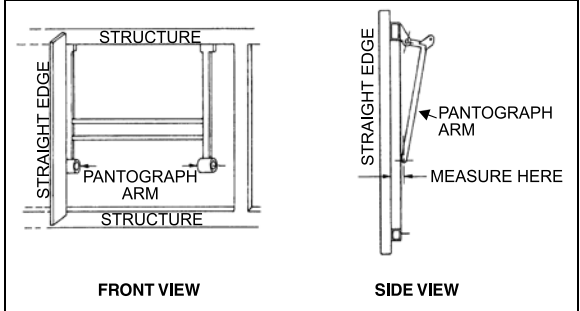
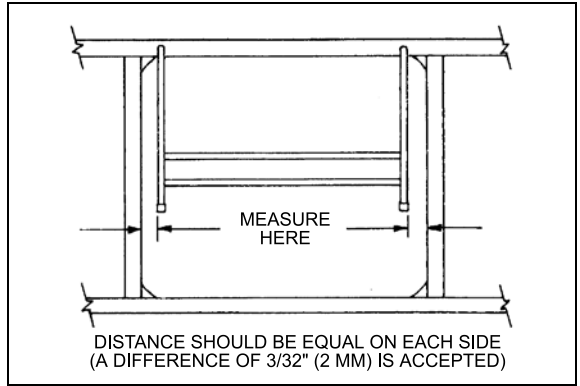

FIGURE 67: PANTOGRAPH DOOR ADJUSTMENT 18062
FIGURE 68: PANTOGRAPH DOOR ADJUSTMENT 18063
Measure distance between a pantograph arm end and a straight edge resting on structure. Repeat procedure for the other arm. The distance on each side should be equal. If not, bend appropriate arm until desired measure is obtained (Figure 67 & Figure 68).
5. When the door is straight, remove the 2x4's and check door operation and fit. A difference of 3/32" (2mm) between both sides is accepted (Figure 68).